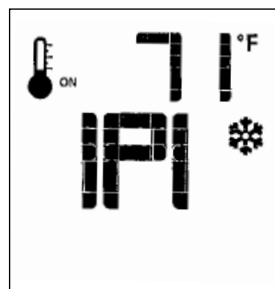
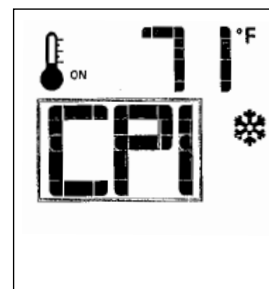

Figure 50. IPI is the default position.
Figure 51. CPI ON.
4. Connect the Blower wire harness to terminal (B) on the IFC board as shown in fig. 50. Use the wire tie provided to take up any extra slack in the harness.
- With the transmitter in the OFF position, press the transmitter Mode key - IPI is the default mode. Fig. 50. Press the Up arrow to index to the CPI icon and activate the Continuous Pilot Ignition mode. Fig. 51. Pressing the Down Arrow Key will return to Intermittent Pilot Ignition. A single “beep” will confirm reception of the command.